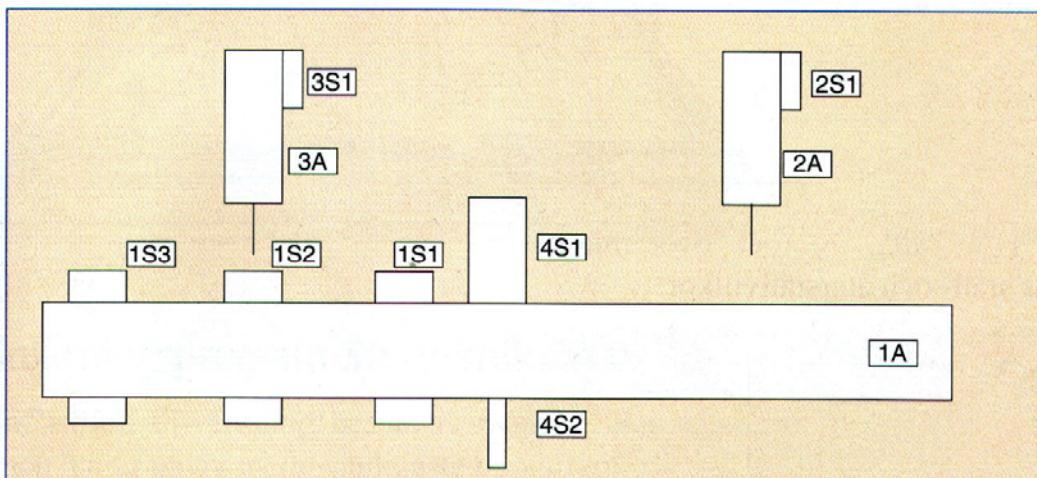

Fig. 6.8 Location drawing of the components in the ball selection machine.
- Check where the components in the I/O list are placed in the ball selection machine. Study the assembly and connections. See Fig. 6.8